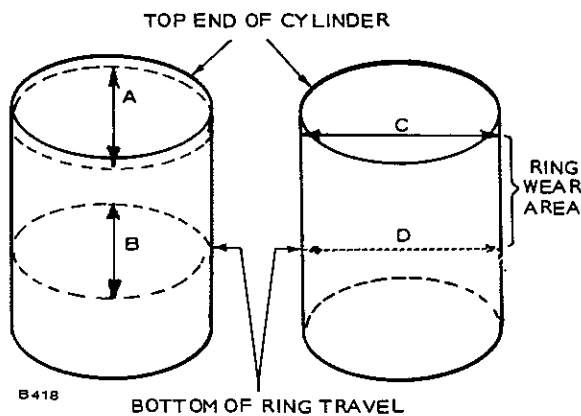

FIGURE 16-15. CYLINDER BORE MEASUREMENT
4. Referring to Figure 16-15, measure cylinder diameter and record the readings as follows: